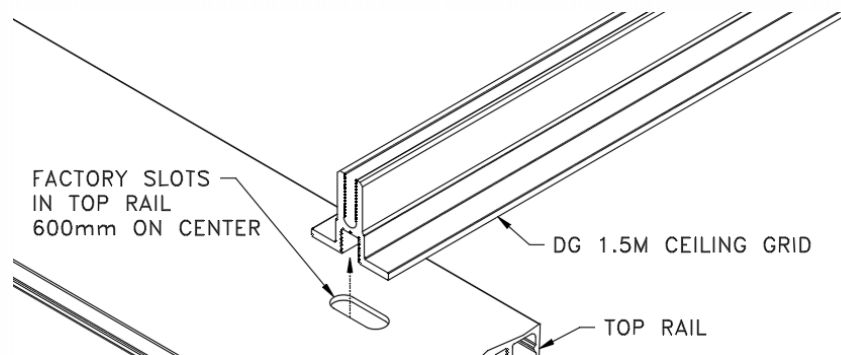

FIG.1
1. Install top rails per required layout attached to grid ceiling through 10mm X 38mm slots **FIG.1**. Verify alignment of top rail with a construction line laser, a string line, or erasable locating marks. Match part coding and parts to layout legend.